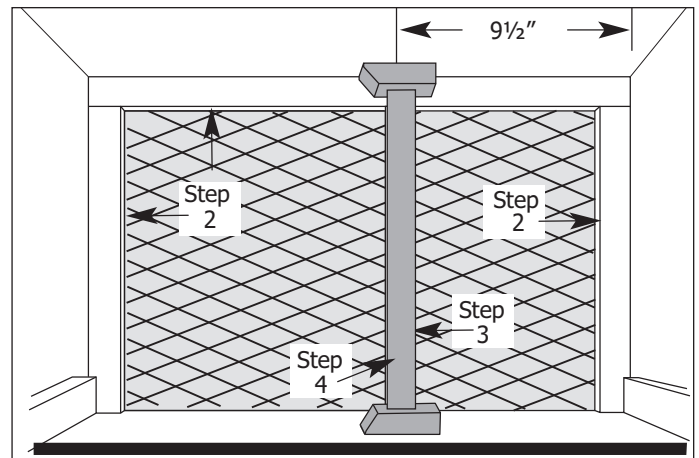

Figure 2-64.
2. Attach the (2) 4-1/2" x 3-1/2" x 1-1/2" foam blocks to the inside of the wall sleeve. (See Figure 2-64)
3. Attach 1" x 3/4" x 14" long seal to the inside of the grille panel. (See Figure 2-64)
4. Cut the 1/8" x 4-1/2" x 14-1/2" long plastic divider to 13" long. Slide the plastic divider in the slots of the (2) foam blocks. (See Figure 2-64)